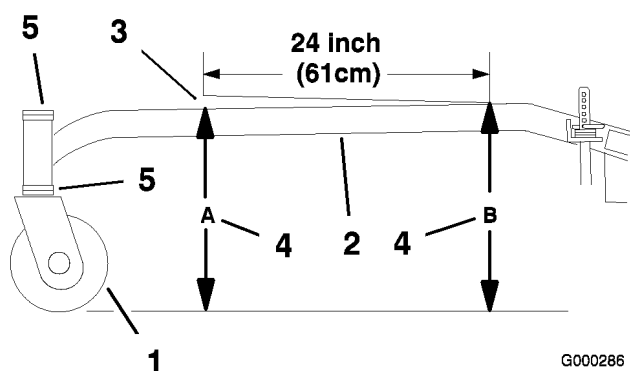

Figure 61
The carrier frame must have a pitch of a 1/4 inch (6 mm) over the length of 24 inches (61 cm) on the carrier frame (Figure 61).
1. Measure out 24 inches (61cm) on the carrier frame (Figure 61).
- Measure carrier frame height at location **A** (Figure 61).
- Measure carrier frame height at location **B** (Figure 61).
- The height at location A must be a 1/4-3/8 inch (6 mm -10 mm) lower than location **B** (Figure 61).
- If the carrier frame is not correct, move caster spacers to make it a 1/4-3/8 inch (6 -10 mm) pitch (Figure 61). Move spacers from top or bottom to make the correct pitch.